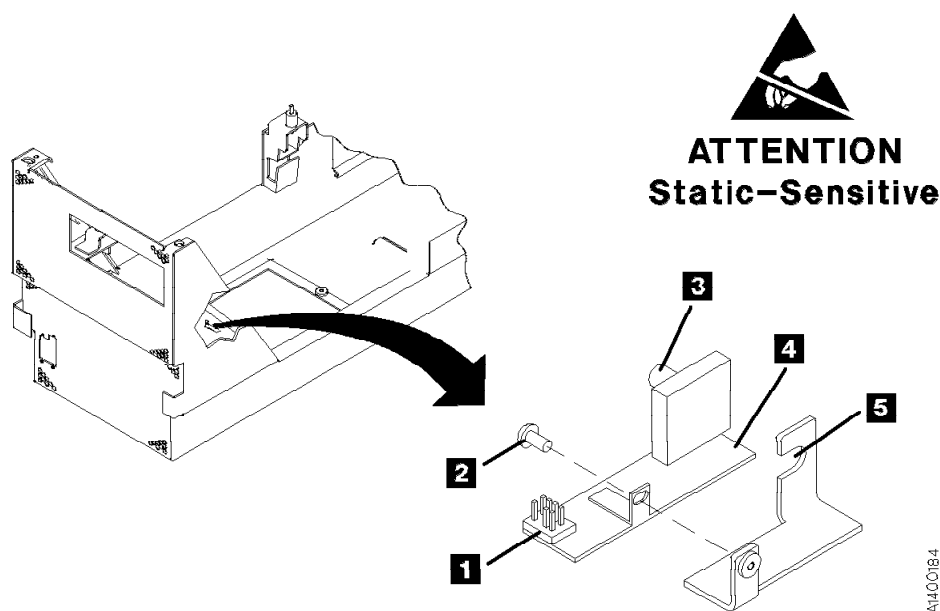

Figure 321. Pressure Sensor (View Rotated 90°)
9.  See Figure 321. From the bottom access hole, remove the screw **2** that secures the pressure sensor card assembly **4**.